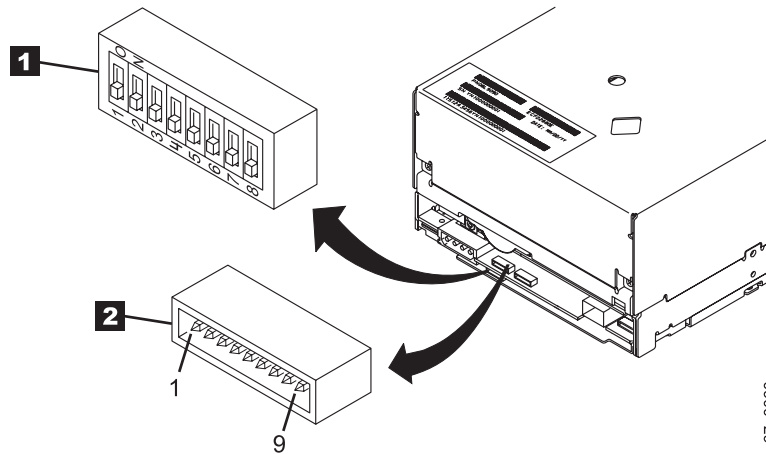

Figure 2-3. Setting the Loop ID and the AL\_PA. The feature switches are located on the bottom of the drive.
If Feature Switch 3 on the drive is set to OFF (see **1** in Figure 2-3 on page 2-5), the LID/status connector **2** has the following definition:
2. Locate the LID/status connector on the drive (see **2** in Figure 2-3).
If Feature Switch 3 on the drive is set to 0N (see **1** in Figure 2-3 on page 2-5), the LID/status connector **2** has the following definition:
2. Locate the LID/status connector on the drive (see **2** in Figure 2-3 on page 2-5).